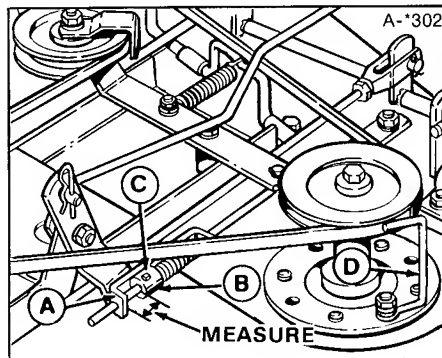
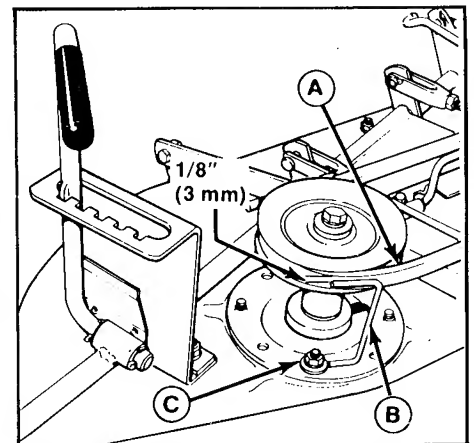

Figure 31. Drive Belt Tension
Figure 32. Right Arbor Belt Stop
mower in highest cutting position. Place the PTO lever in engaged position, the gap between the rod guide (A, figure 31) and the set collar (B) should measure  $\frac{3}{8}$  to  $\frac{1}{2}$  inch (10 to 13 mm). If not, disengage the PTO. Loosen the setscrew (C). Move the rod forward to increase the gap or back to decrease the gap then tighten the setscrew. Engage the PTO and recheck the adjustment. Readjust if necessary.
The arbor belt stops are item D in figure 31 and item B in figure 32. There should be  $\frac{1}{8}$  inch (3 mm) clearance between the belt stops and belt when the PTO lever is engaged. If not, loosen the nut, move the belt stop and retighten the nut.